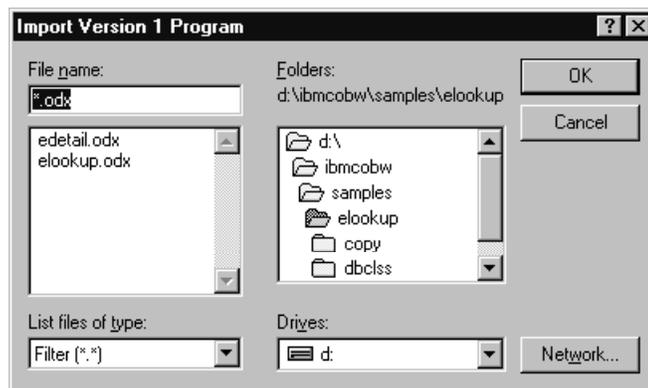

Figure 13. Import Version 1 Program window
2. Select the **File**→**Import V1 Component** menu item. The **Import Version 1 Program** window appears, as shown in Figure 13.